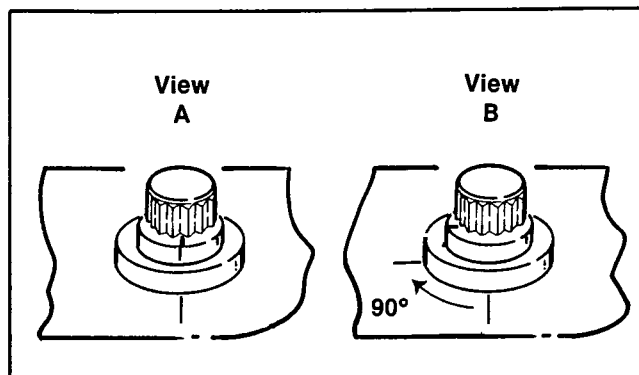

Figure 3. Tightening Head Screw
3. Refer to Figure 3. Mark a line on the cylinder head and a corresponding line on the head of the cylinder head screw as shown in View A. Following the same sequence 1, 2, 3, then 4, turn each head screw, one at a time one quarter turn (90°) using the marks as a guide. When marks are all positioned as in View B the procedure is completed.